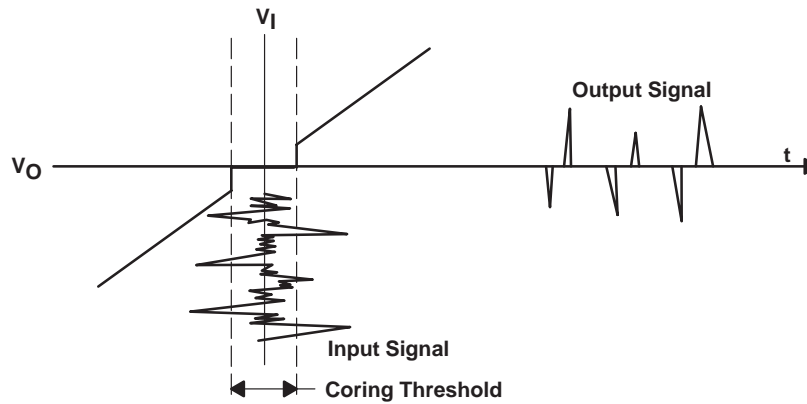

Figure 2-9. Transfer Curve of Coring Circuit
-frequency noise. Figure 2-9 shows the transfer curve of the coring function. The peaking frequency, peaking gain, and coring threshold are programmable.